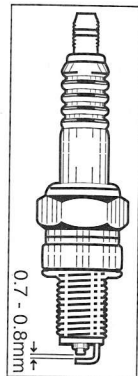

Fig. 35
*If you have a feeler gauge you can check the gap between the electrodes in the spark plug. This gap should be 0.7-0.8 mm (fig. 35). Resetting of the gap should preferably be done at an authorized service station.*